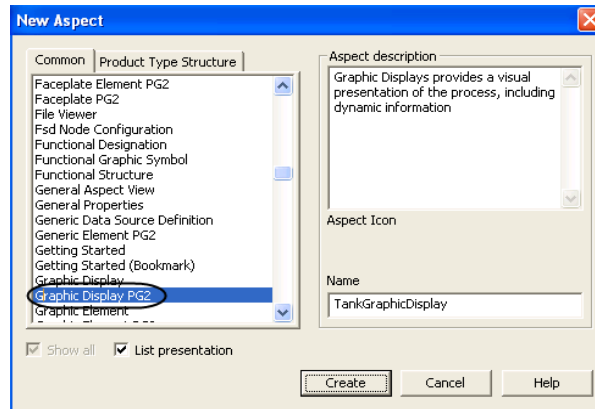

Figure 150. New Graphic Aspect
2. To create a graphic display, right-click on the object and select **New Aspect** from the context menu. The **New Aspect** dialog appears as shown in Figure 150.